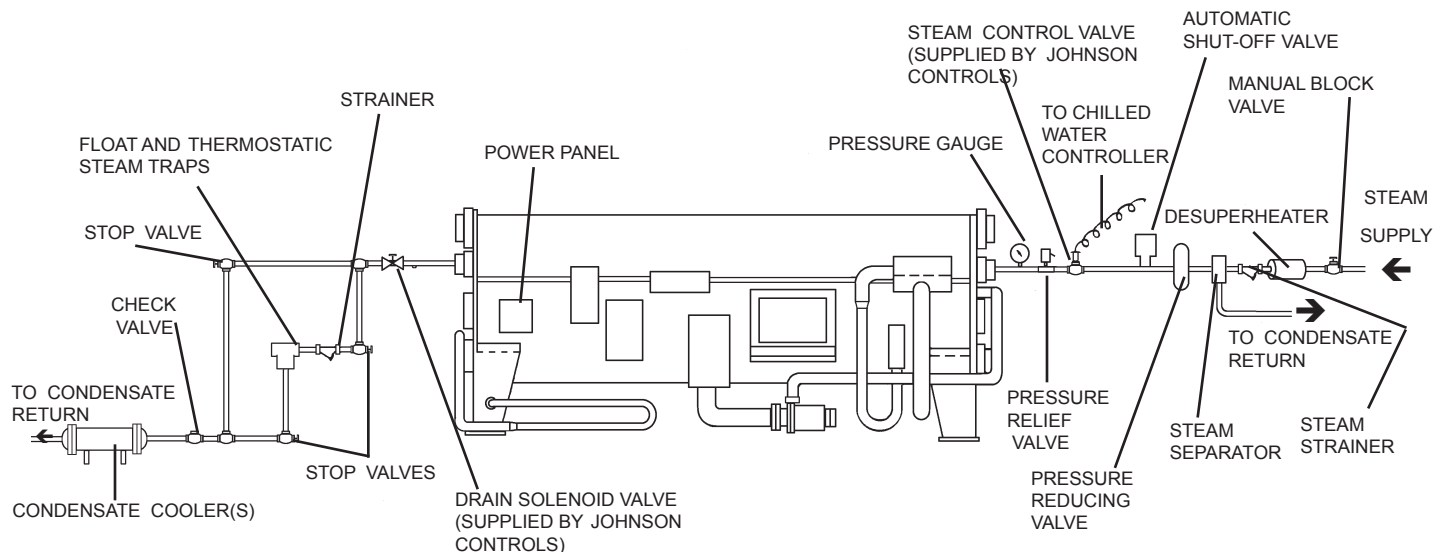

FIG. 4 – TYPICAL STEAM PIPING
A general steam piping diagram is laid out in Fig. 4 below. The steam supply may be either low pressure steam or high pressure steam reduced to low pressure steam. Steam piping should be designed in accordance with good engineering practice.
Component details described in the following section are shown in Fig. 4, "Typical Steam Piping."
**Steam Control Valve (Johnson Controls Supplied)** – The steam control valve as found in the ship-loose-items, should be installed as shown in Fig. 4. This valve should be connected to the appropriate wiring harness and is used to control the amount of steam that enters the unit. It will modulate from 10% to 100% depending on the leaving chilled water temperature. The minimum value of 10% is set in the field. This is explained in detail in the installation manual.
**Float and Thermostatic Steam Trap(s)** – Fig. 4 shows a typical condensate steam trap piping arrangement as used on an absorption unit. The trap serves the purpose of passing condensate, but preventing the loss of steam. A float and thermostatic steam trap is recommended for this application. It should be applied in accordance with the manufacturer's recommendations. The trap should be located as close to the generator condensate outlet as possible in the horizontal plane. In the vertical plane, the trap should be located below the generator condensate outlet, a minimum of 12 inches (0.3 m). Preferably, the maximum possible elevation between the generator outlet and the trap should be used.